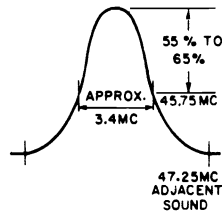

FIG. 5 - OVERALL I.F. RESPONSE CURVE
15. Maintain generator output to produce approximately 0.2 volts P-P indication on the oscilloscope (as above) and adjust the grid coil (L-5) to center the 44.0 mc marker on the peak of the response as indicated in Fig. 5, disregarding the tilt of the overall waveshape.